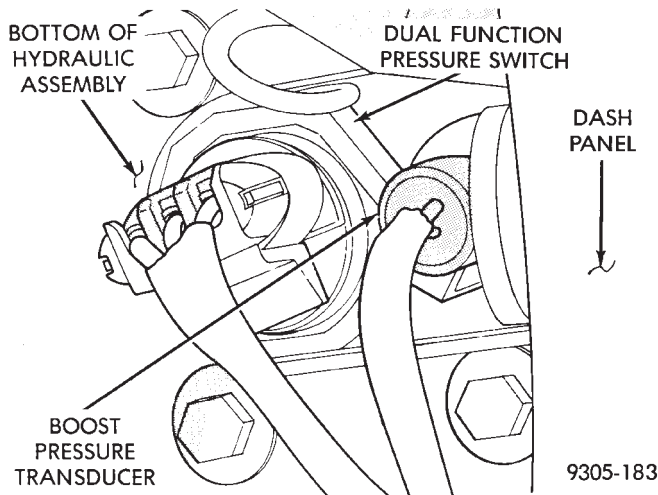

Fig. 15 Boost Pressure Transducer Location
To remove the boost pressure transducer (Fig. 15), from the hydraulic assembly, removal of the hydraulic assembly from the vehicle is **not** required.
(1) De-pressurize hydraulic bladder accumulator on hydraulic assembly by pumping the brake pedal a minimum of 40 times. Refer to the procedure as described in De-Pressurizing Hydraulic Accumulator listed earlier in this section.
(2) Raise vehicle on a frame contact type hoist. See Hoisting in the Lubrication And Maintenance section of this manual, for the required lifting procedure to be used for this vehicle.
(3) Disconnect hydraulic assembly wiring harness connectors from the dual function pressure switch and boost pressure transducer (Fig. 15).
(3) Connect hydraulic assembly wiring harness connectors, onto the dual function pressure switch and boost pressure transducer (Fig. 15).
(4) Turn the ignition switch to the on position and let the system pressurize. Check for any signs of leakage at the differential pressure switch.
(5) Fully de-pressurize hydraulic assembly a second time to purge any air out that may have entered hydraulic assembly when differential pressure switch was removed. Turn the ignition switch to the on position and let the system pressurize again.
(6) Fill hydraulic assembly fluid reservoir to the top of the screen on the filter/trainer. Use only fresh clean brake fluid conforming to DOT 3 requirements, such as Mopar® or equivalent.
(7) Road test vehicle to insure that the brake system is performing correctly.